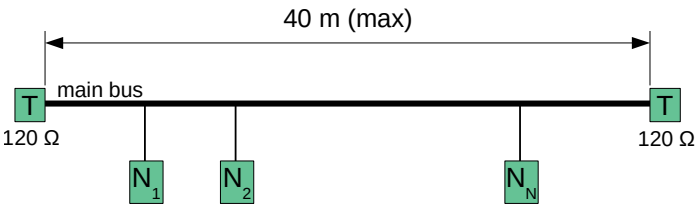

Figure 24: CAN line/bus topology principle used by Kanardia
CAN system can be used in different topologies. We are using line/bus type topology. Figure 24 shows schematic of this topology. It consists of one main CAN bus line and several devices (also referred to as nodes) are connected to the main bus via short connections. The connecting lines shall be short – up to 30 (50) cm, while the main line can be up to 40 meters long. Each side of the main bus line must have a terminator, which is a 120  $\Omega$  resistor.